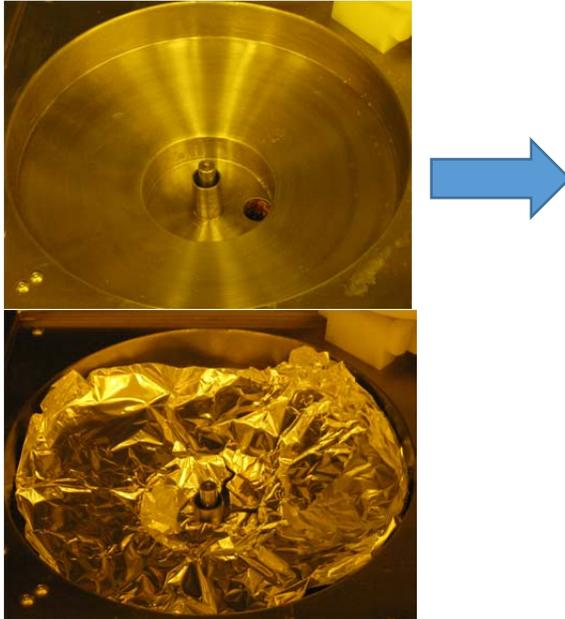

Figure 4
1. Take some aluminum foil from the shelf at the left of the refrigerator, and make a liner to the spinning bowl, as shown in Figure 4.